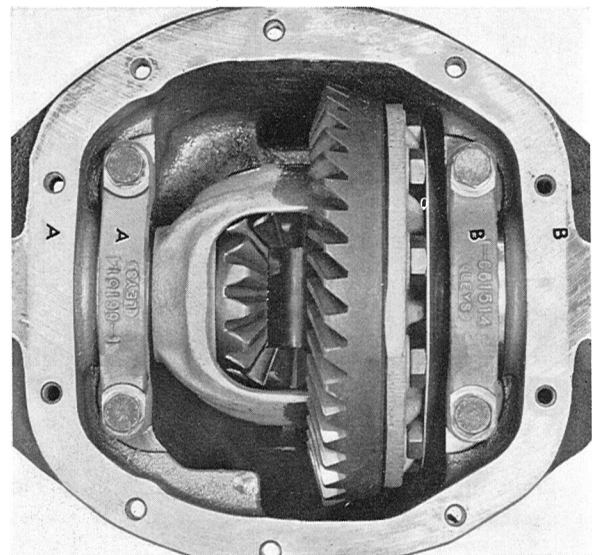

Fig. 4-154. Alignment marking on cap and carrier
5. Check the alignment markings on the cap and carrier, see Fig. 4-154.